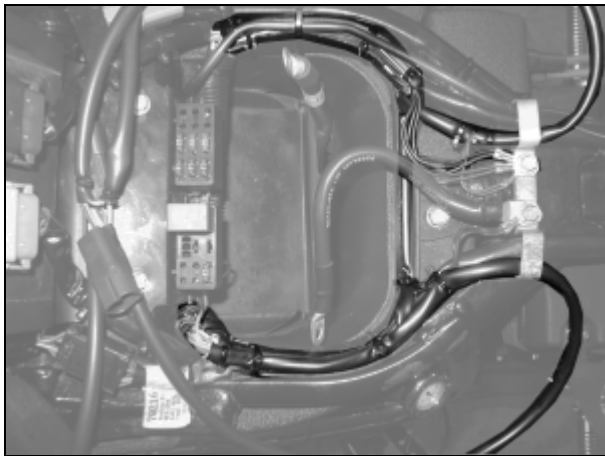

Figure 4. CCWH Position
7. See Figure 4. Remove left bolt and loosen right bolt on wire clamp. Route left and right side of CCWH to right side of shield loom. Route right side of CCWH under right side of wire clamp. (right side harness can be identified by black Deutsch male connector housing and includes two connectors for the throttle roll-off switch). Route left side of CCWH in cross wire trough of the shield loom (left side harness can be identified by grounding connector, gray Deutsch male connector housing). Place left side of CCWH including gray Deutsch connector under wire clamp closest to the left wire clamp bolt. Insert fuse terminals into unused fuse position, next to spare fuse holders on relay side of fuse block. **Make certain that you are using the unused fuse position that does not have an existing fuse terminal!** (fuse terminals are very difficult to remove once inserted) Refer to service manual for empty fuse position location. Install supplied 10 amp fuse into fuse position. Place ground connector under existing left side ground connectors and replace left wire clamp bolt. Tighten both wire clamp bolts. Evenly distribute and secure CCWH to shield loom by replacing factory cable ties with supplied ties.